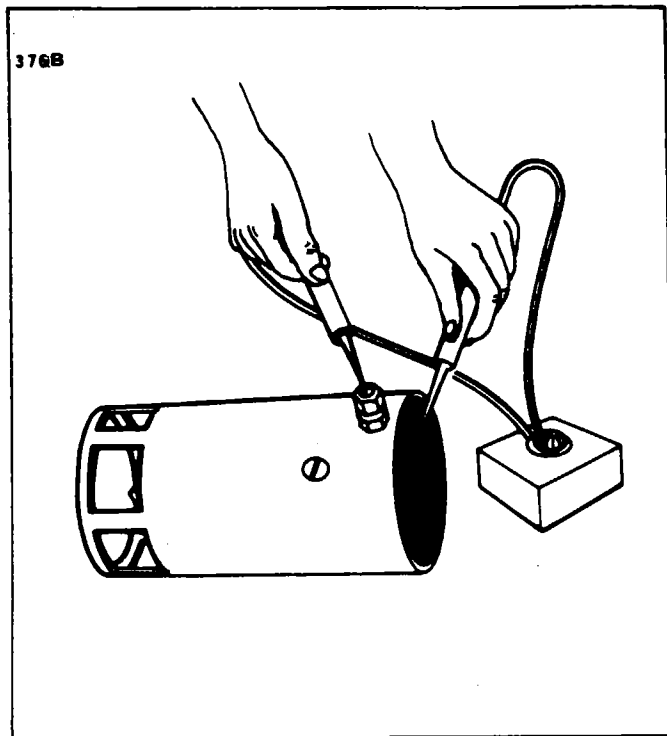

Figure 11-26. Testing Motor Fields for Grounds
a. Check the field coils for grounds (refer to Figure 11-26) by placing one test probe on the frame and the other on the starter terminal. Be sure the brushes are not accidentally touching the frame. If the lamp lights, the fields are grounded. Repair or replace.